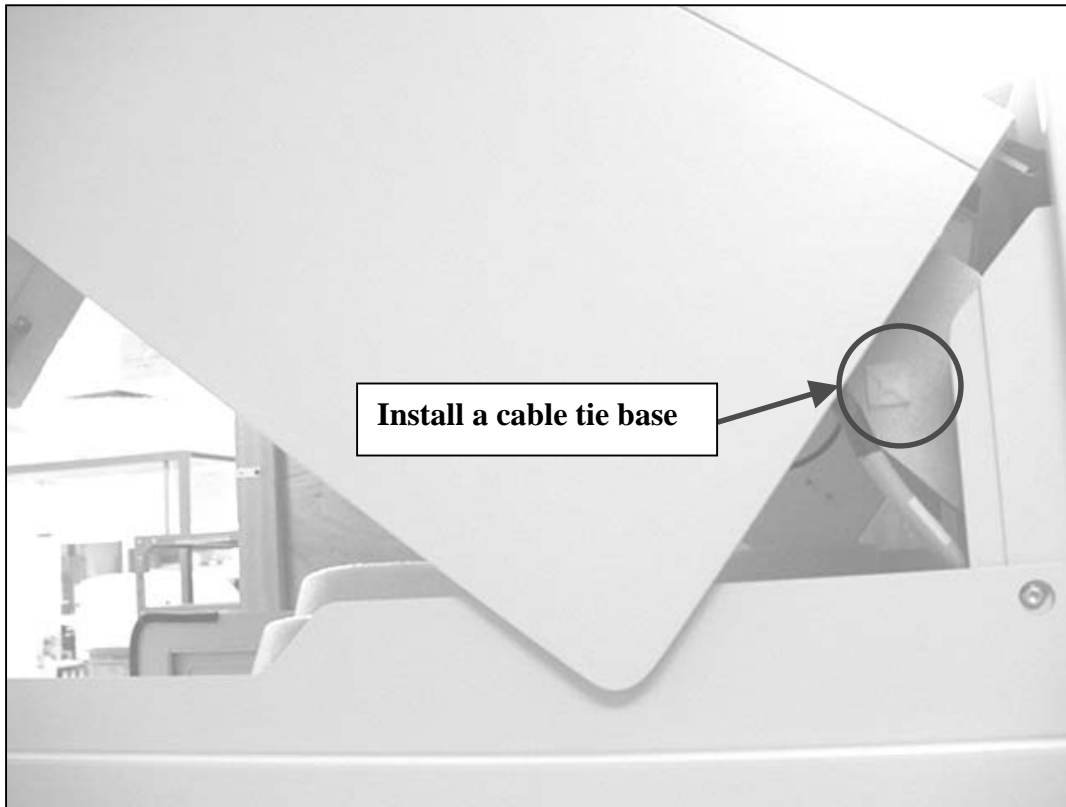

Figure 2
2. Clean the hinge to remove grease and place a cable tie base (5186-3981) on the hinge at the position shown in **Figure 2**.